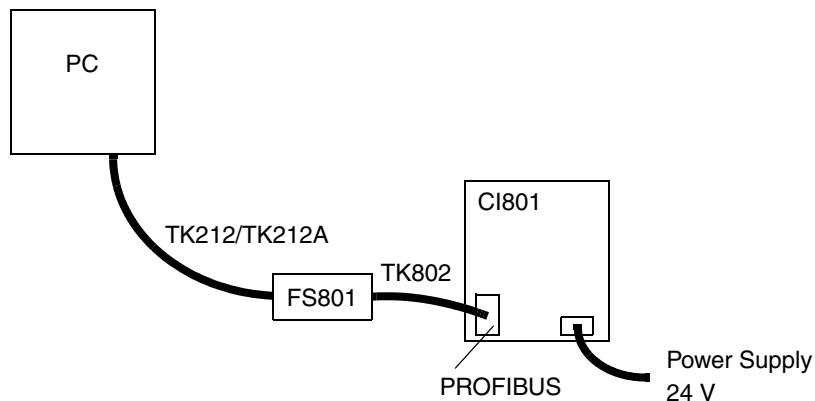

Figure 23. CI801 Connection
1. Connect a PC to the service port of the CI801 via the service adapter (FS801 and TK802) and cable TK212/TK212A, see Figure 23.